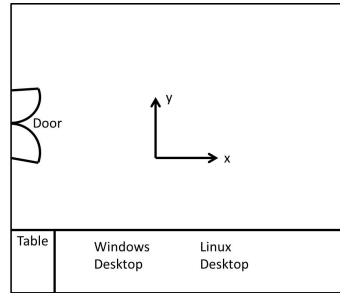

Figure 3: Figure of the lab layout. The z direction is pointing upward.
5. Put the quadrotor on the ground. From the motion capture software, it can be seen four white markers. Select four markers, then right click. Click “Rigid body->Created from selected markers”. The default coordinate of the motion capture system is defined in Fig. 3. The positive x direction on the quadrotor is defined as shown in Fig. 4. It is necessary that the x direction of the quadrotor matches the x direction of the motion capture system.